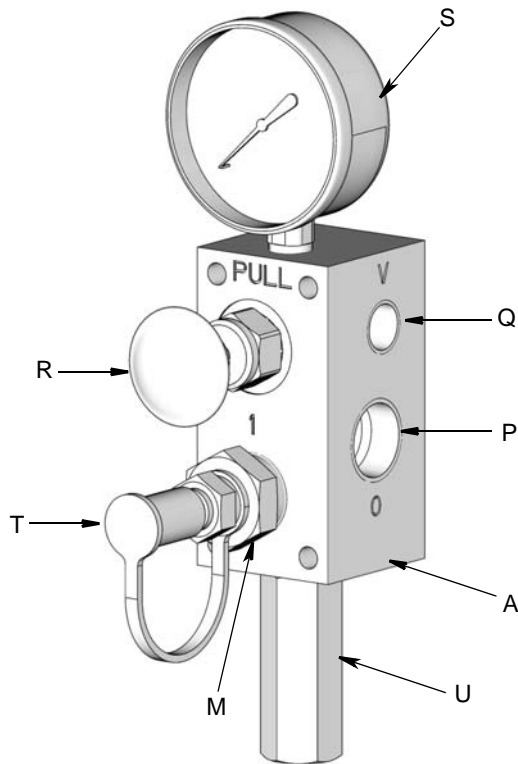

FIG. 1
The reference letters used in the following instructions refer to the Typical Installation diagram provided on page 3 and the Component Identification illustration (FIG. 1).
2. Orient the Fill Valve (A) as shown in FIG. 1. When the Fill Valve is correctly oriented the Pressure Gauge (S) will be located on the top of the Fill Valve block and the Pressure Relief Valve (U) will be located on the bottom of the block.
<p>To reduce the risk of serious injury from skin injection, the Fill Valve (A) must be installed with the pressure gauge (S) located on the top of the Fill Valve and the pressure relief valve (U) pointing down as shown in FIG. 1.</p>
4. Secure Fill Valve (A) to installation surface using 4 1/4 inch bolts.
5. Select a convenient location close to the valve to adhere the Operating Instructions label (N) (included with your valve).